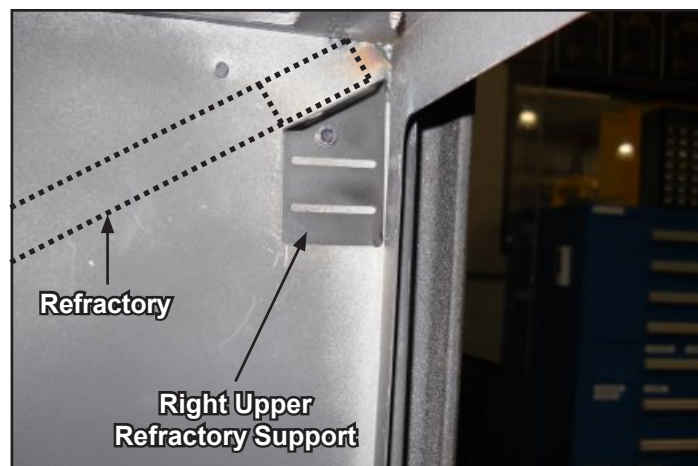
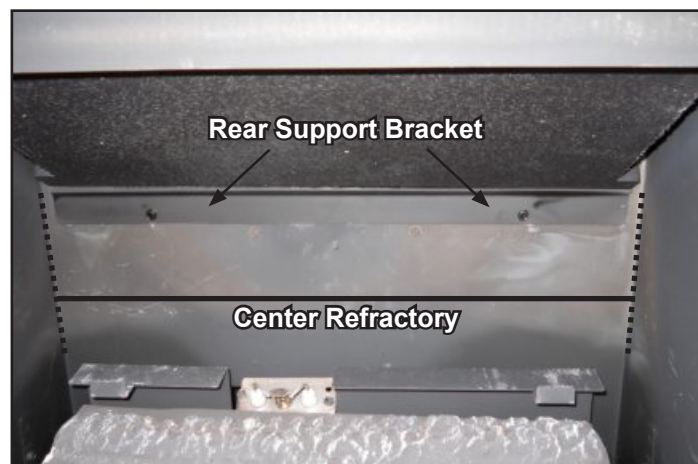

Figure 10.3 Right Upper Refractory Support
Figure 10.4 Installed Top refractory
4. With refractory inside the appliance, slide front/top edge of refractory on top of the front refractory brackets. See Figure 10.3. Slide refractory forward until it contacts the front of the inner firebox. Slide refractory down towards the rear so the back edge of the refractory rests on the rear support bracket. Center the refractory left and right. See Figure 10.4.